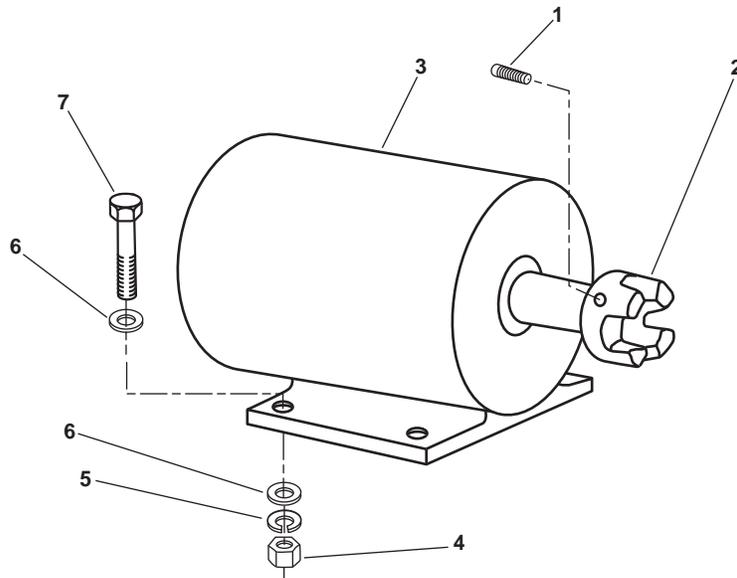

Figure 3. Electric Motor Removal
7. Loosen the electric motor coupling flange setscrew (figure 3, item 1).
8. Slide the electric motor coupling flange (figure 3, item 2) towards the electric motor (figure 3, item 3).
9. Remove the four nuts (figure 3, item 4), the four lockwashers (figure 3, item 5), eight flat washers (figure 3, item 6), and four bolts (figure 3, item 7). Discard the four lockwashers.
10. Remove the electric motor (figure 3, item 3) from its foundation.
11. Slide the electric motor coupling flange (figure 3, item 2) off the electric motor shaft. Retain the coupling flange for installation.
1. Slide the electric motor coupling flange (figure 3, item 2) onto the electric motor shaft (refer to figure 3) with the flat end towards the electric motor (figure 3, item 3) housing.
2. Position the electric motor (figure 3, item 3) on its foundation with the mounting holes aligned.
3. Install the four bolts (figure 3, item 7), eight flat washers (figure 3, item 6), four new lockwashers, (figure 3, item 5) and four nuts (figure 3, item 4). Do not tighten the bolts at this time.
4. Tighten the electric motor's coupling flange setscrew (figure 3, item 1).
6. Tighten the four bolts (figure 3, item 6) securing the electric motor (figure 3, item 3).